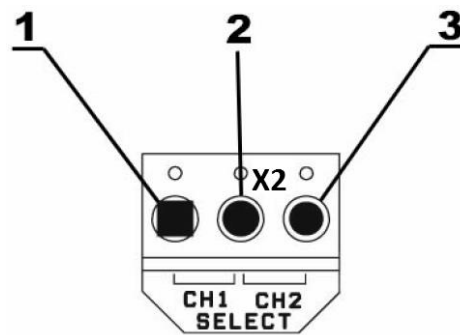

Figure 7 – Terminal block “SELECT”
2.3.2.4 Remote select of active channel is a type of manual channel select. To select this mode, the PCB has a terminal block with three outputs “SELECT”, see Figure 7.